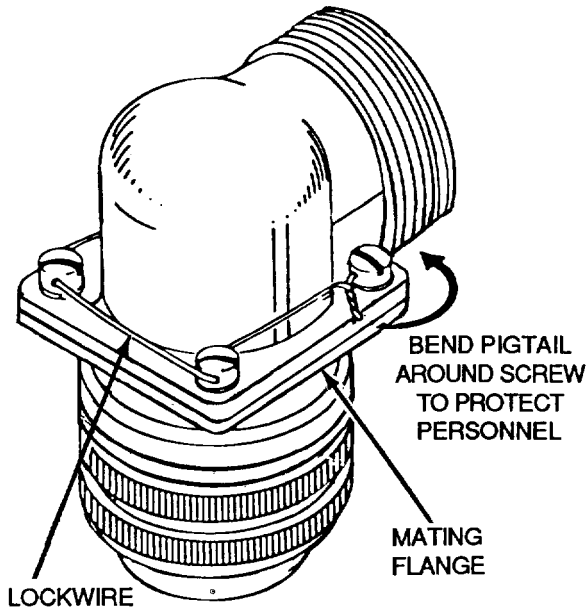

Figure 5. Single Wiring Method (Typical)
h. When twisting wire by hand, the two ends of the wire shall be held straight and taut. Use pliers for the final twist to apply tension and to secure ends of wire. Lockwire must not be nicked, kinked, or mutilated. Never twist the wire ends off with pliers. Always cut the end leaving 4 to 6 complete turns (1/4 to 1/2 inches long), which is then bent under or back to prevent injury to personnel (Figure 5).
m. Terminated lockwire shall have a 1/4 to 1/2 inch (3 to 6 twists) pigtail. The cut end shall be bent under the twisted wire (Figure 5) to prevent injury to personnel.
12. **SINGLE WIRE METHOD.** This method may be used to lockwire equipment in areas hard to reach or for small screws that are 2 inches or less between centers (Figure 5).
21. **Mating Flange.** Typical mating flange types are of two pieces held together and in place by four fillister head screws which are lockwired using the single wire method (Figure 5).